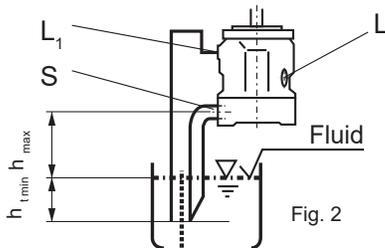

Fig. 2
- If the minimum fluid level is below the pump mounting surface pipe port "L1", and possibly "S" according to Fig. 2. Close port "L" with respect to conditions in 1.2.1.
Before installation fill pump housing, keeping it in a horizontal position. For mounting above tank see Fig. 2.